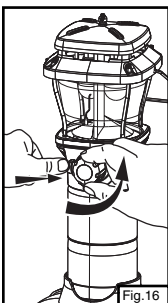

Fig. 16
■ Open burner valve and repeatedly push igniter button and ignite the mantles. (Fig. 16)